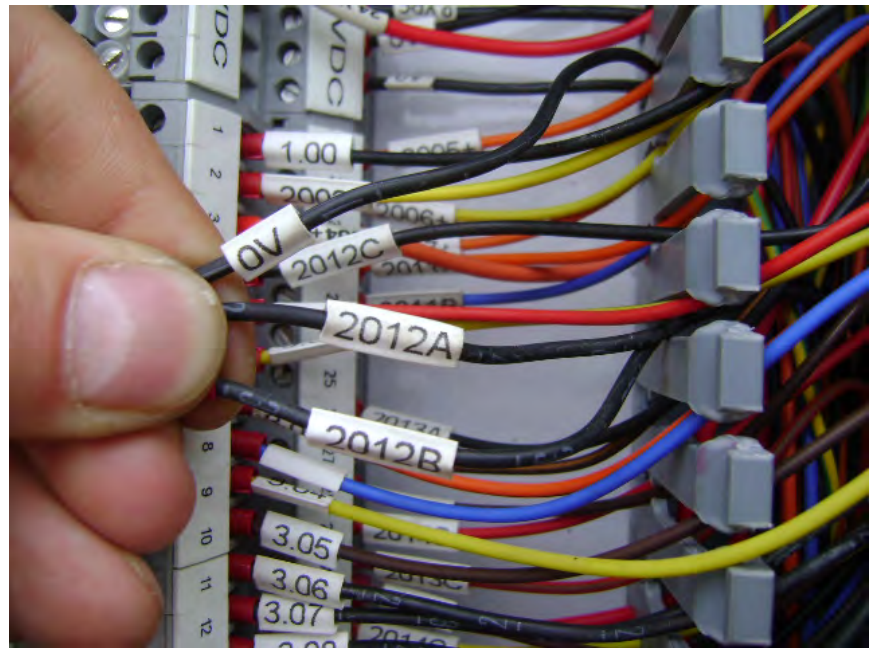

Figure 2
4. Disconnect the coil wires from the terminal block (Figure 2). Disconnect 2012A\_3 from TB1-24, 2012C\_1 (or 0V) from TB1-4, and 2012B\_2 from TB1-25. Note: Wire numbers and terminal block assignments on other revisions of electrical schematic may vary. Some versions may require disconnect of ground (green/yellow) wires.